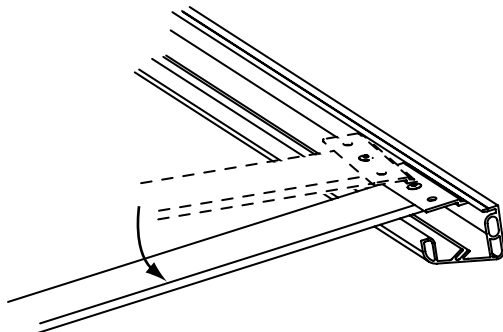

Figure 2
- ① Insert vertical brace into groove on back side of frame, so that tongue fits into slot. Make sure the rivet faces up (away from the screen and frame). Insert one end of the brace into one groove at a slight angle, then rotate other end of brace into groove until the vertical brace is parallel with the frame sides (see Fig. 2). Braces will remain in place; no fasteners are required.